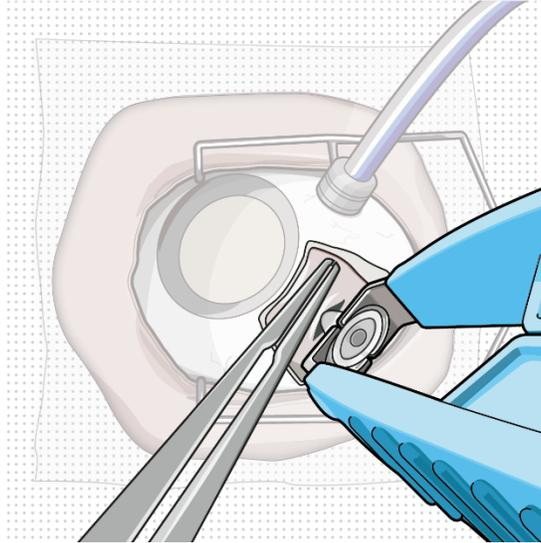

Figure 8
- During removal, use forceps to stabilize the globe and provide counter traction to help release the surrounding tissue (Figure 8).